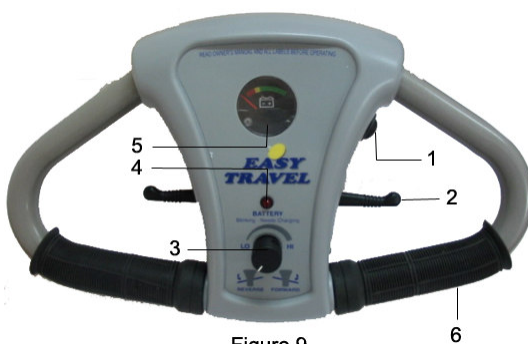

Figure 9
The switch located on the right side of the control panel (Fig. 9/1), will turn the power of the *EasyTravel* ON or OFF.
The top speed may be adjusted by turning the Speed-adjusting knob (fig 9/3). By turning the knob to the HI position, your *EasyTravel's* top speed will be up to 3.7mph/6kph. When the knob is set to the Lo position, the speed will be reduced to a slow crawl, ideal for less experienced drivers and for operating indoors.
5.2. Battery indicator Light (Fig. 9/4)
- ❑ **Indicator light flashes slowly** - The controller is functioning correctly but batteries should be charged as soon as possible. The Battery Level Indicator (Fig. 9/5) shows the charge that is left.
5.3. Battery Gauge(Fig. 9/5)
The Battery Gauge (Fig. 9/5) shows the battery charge that is left.
NOTE: The Freewheel mode can only be activated **after** the battery is in place and the power switch (Fig.9/1) is turned on. Doing otherwise will cause a fault situation indicated by rapid flashing of the Indicator light (Fig. 9/4). See section 4.2.